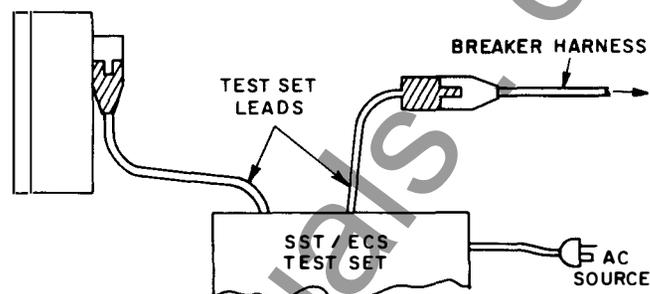

Fig. 4. Connection for Complete System test
3. The test set male connector lead need not be connected to the breaker harness for "Programmer Only" testing. However, the Fig. 4 connection should be used if "Complete System" tests are to be run also.
### "Complete System" Test - Mode "B" (See Fig. 4)